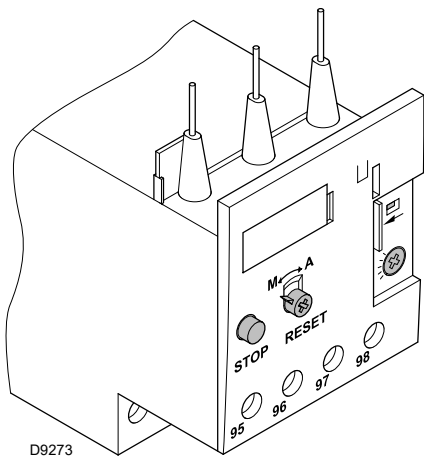

Fig. 24
The electro-mechanical thermal relay (Fig. 24) is used to avoid damage to the motor owing to a strong increase in absorption or the lack of a phase.
- To reset, in the case of an intervention of the thermal relay, press the button “RESET” (Fig. 24).
- The button “STOP” (Fig. 24) opens the NC (95-96) contact and stops the motor.